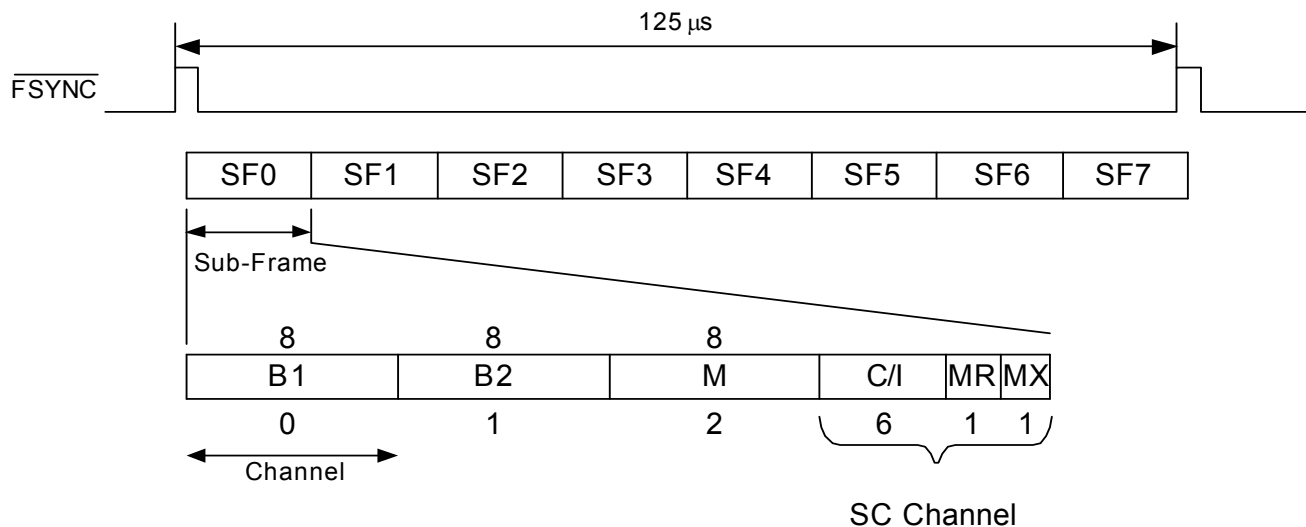

Figure 41. Time-Multiplexed GCI Highway Frame Structure
(SC) for communicating status of the device and for initiating commands. Within the SC channel are six Command/Indicate (C/I) bits and two handshaking bits (MR and MX). The C/I bits are used for status and command communication, whereas the handshaking bits Monitor Receive (MR) and Monitor Transmit (MX) are used for data exchanges in the Monitor channel. Figure 41 illustrates the contents of a GCI highway frame.
Figure 41 illustrates the Monitor channel communication protocol. For successful communication with the Si3050, the transmitter should anticipate the falling edge of the receiver's acknowledgement. This also maximizes communication speed. Because of the handshaking protocol required for successful communication, the data transfer rate using the Monitor channel is less than 8 kbytes/second.